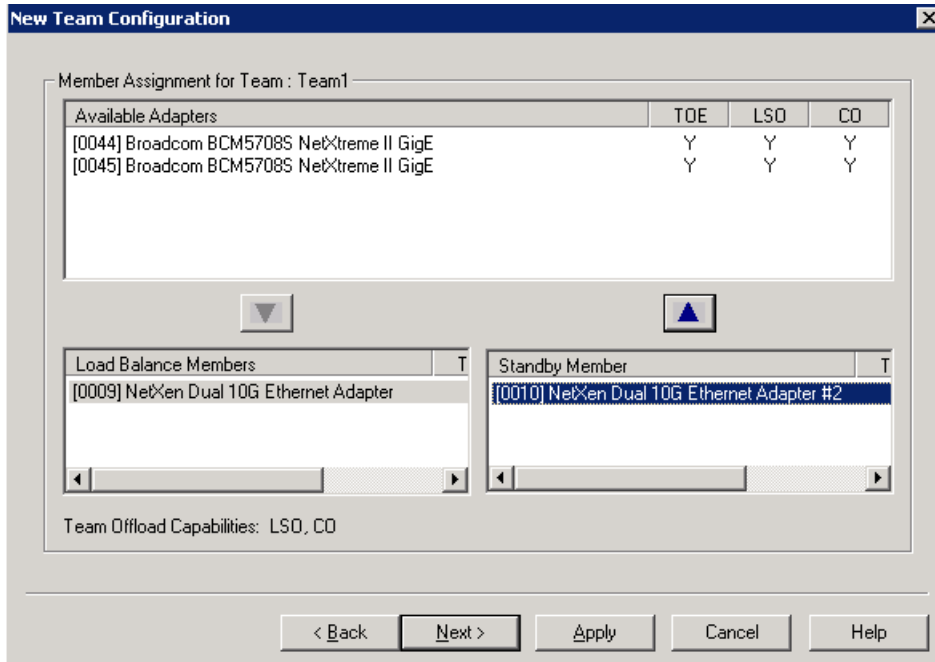

Figure 5-33 Choose your adapters
6. On the next page (see Figure 5-33 on page 85), select the adapters that will be part of the team. Select one adapter as a Load Balance member and another adapter as a Standby member. Again, this is dictated by the hardware layout of the BladeCenter; a team needs to be in active/standby mode to work properly.